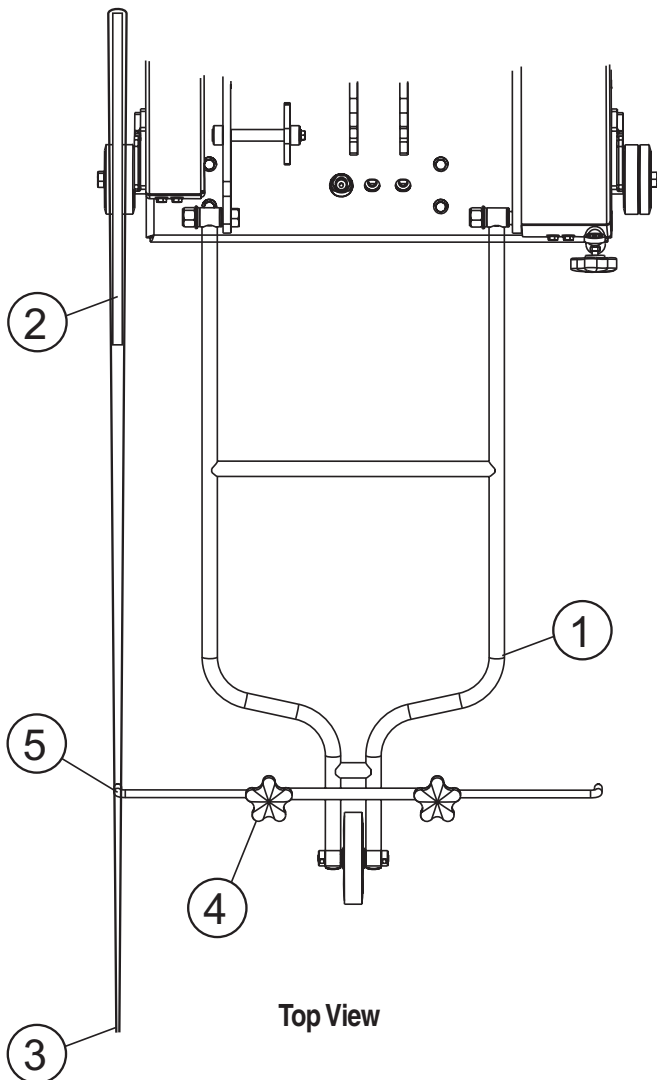

Figure 26. Adjusting the Pointer Assembly
- Using 10-12 ft. (3-3.7 meters) of stringline, divide the length of the string in half and slide the string into one of the slots or gullets on the backside of the blade, (as viewed standing in front of the pointer). (Item 2, Figure 26) Hold both ends of the string in one hand and pull the string taut. (Item 3) Move your hand from side to side until both strings are touching both sides of the blade.